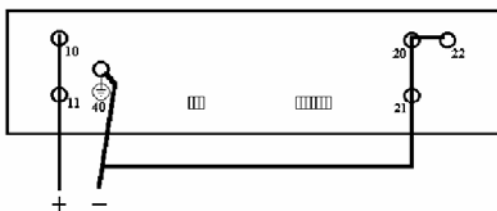

Figure 7. Input to output and input to case isolation voltage test.
4. Connect your isolation tester between input and case. See *Figure 7*. Raise the voltage of the isolation tester from 0 to 2000Vd.c . Check that the leakage current does not exceed $5\mu\text{A}$. The voltage should not be applied for more than a few seconds or the Y-capacitors might be damaged.
2. Connect the output terminals of the converter to case. See *Figure 7*.
4. Connect your isolation tester between input and case. See *Figure 7*. Raise the voltage of the isolation tester from 0 to 2500Va.c . The voltage should not be applied for more than one (1) minute or the Y-capacitors might be damaged.